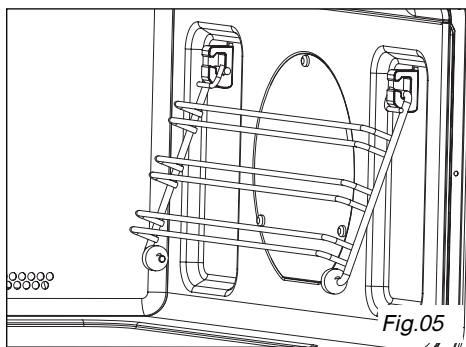

Fig.05
- **The side grids (Fig.05/06):** 2 racks fitted with hooks allow you to use the accessories on three levels.